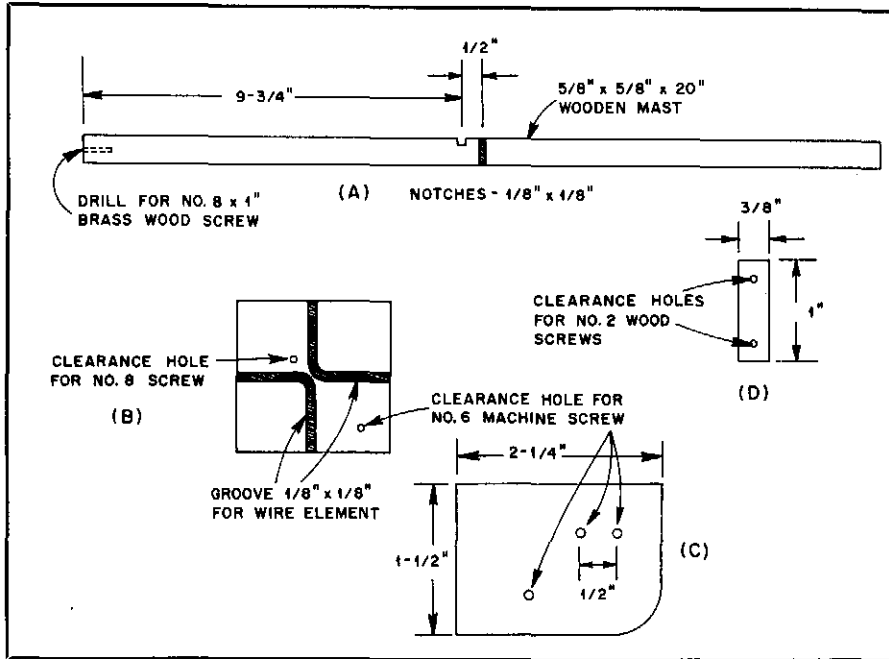

Fig 4—Construction details of the mast (A), top mount (B), feed-point insulator (C) and lower element clips (D) of WA8ZVT's compact 1λ 2-meter antenna.
up with the antenna shown in Figs 4 and 5. It is small and provides both horizontally and vertically polarized radiation components. It is easy to build and small enough to use in an apartment window. Try building one—it's great!
A 5/8-inch-square, 20-inch-long wooden mast supports the wire element. Notch the mast and fabricate the top mount, clips and feed-point insulator as shown in Fig 4.
Fig 4—Bob Kuehn added this 14-MHz series-resonant circuit (L1C1) to clean up the output of a push-push doubler in his homemade QRP transmitter. L1 consists of 44 turns of no. 24 enameled wire on a T-68-2 powdered-iron toroidal core. C1 is a small air-dielectric capacitor capable of being set to about 11.5 pF.
□ During cut-and-try construction of a QRP CW rig that uses push-push doubling to produce 14-MHz drive from a 7-MHz VFO, I discovered that the stages following the doubler had output everywhere *except* 14 MHz! I solved this problem by installing a series-resonant tuned circuit between the doubler and its buffer stage (Fig 4). I have